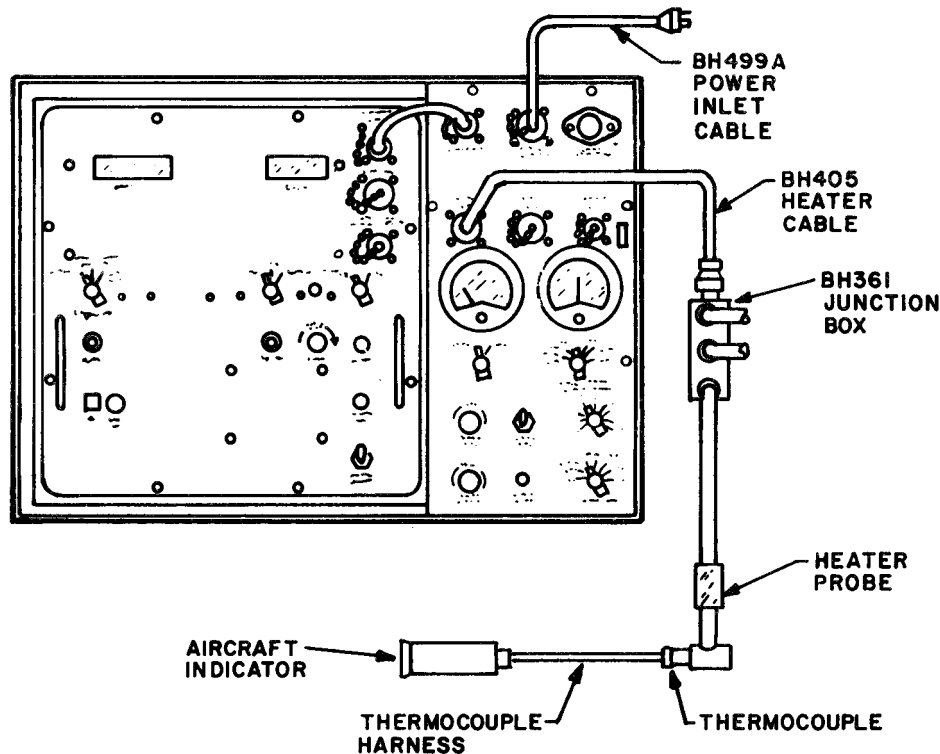

Figure 2-2. Temperature System Accuracy Check Setup.
If continuity probe is not available perform continuity check with applicable heater probe. Junction box must be connected between BH405 heater cable and heater probe, refer to Fig. 2-2.
b. Temperature System Accuracy Check. The accuracy check is used to test the entire aircraft temperature system by heating all engine thermocouples and comparing the temperature displayed on the aircraft temperature indicator with the heater probe temperature displayed on the tester TEMP indicator. Refer to figure 2-2 and proceed as follows: